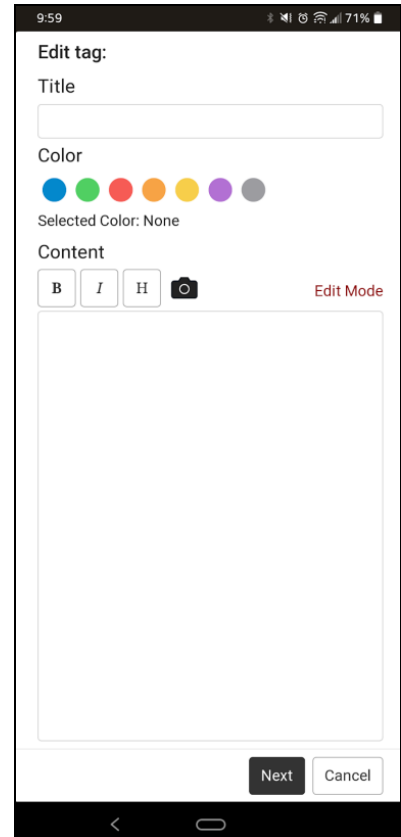

Figure 21 - Tag Editor screen
3. On the tag editor screen (see figure 21), you may enter the following information and make the following selections: